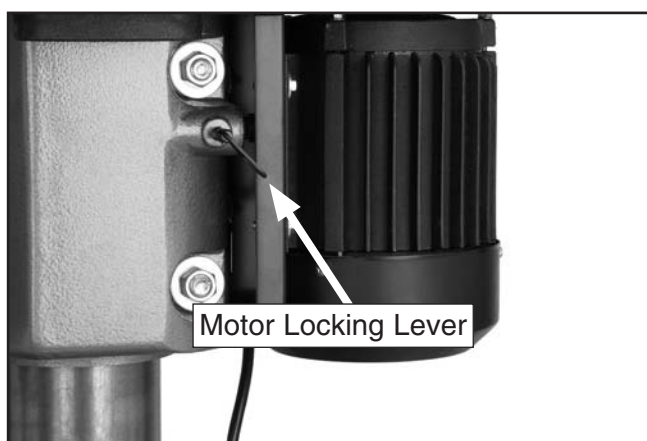

Figure 26. Motor locking lever.
2. Loosen the motor locking lever. Pull the motor inward to move the rear pulley toward the spindle (**Figure 26**).